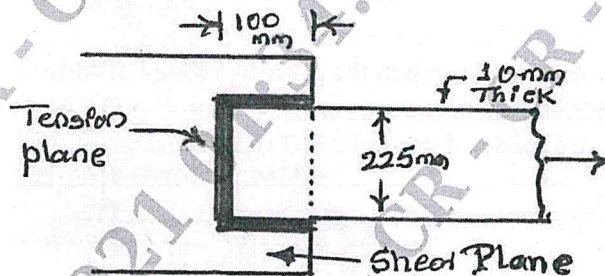

Fig.Q7(b)
b. Determine the block shear strength of the welded tension member shown in Fig.Q7(b). Steel grade is Fe 410.